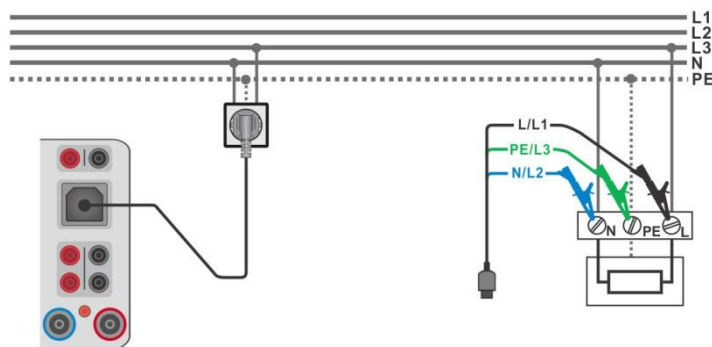

Figure 6.108: Connection of Plug test cable or 3-wire test leads
- ▶ Connect 3-wire test lead or Plug test cable to the object under test, see **Figure 6.108**.